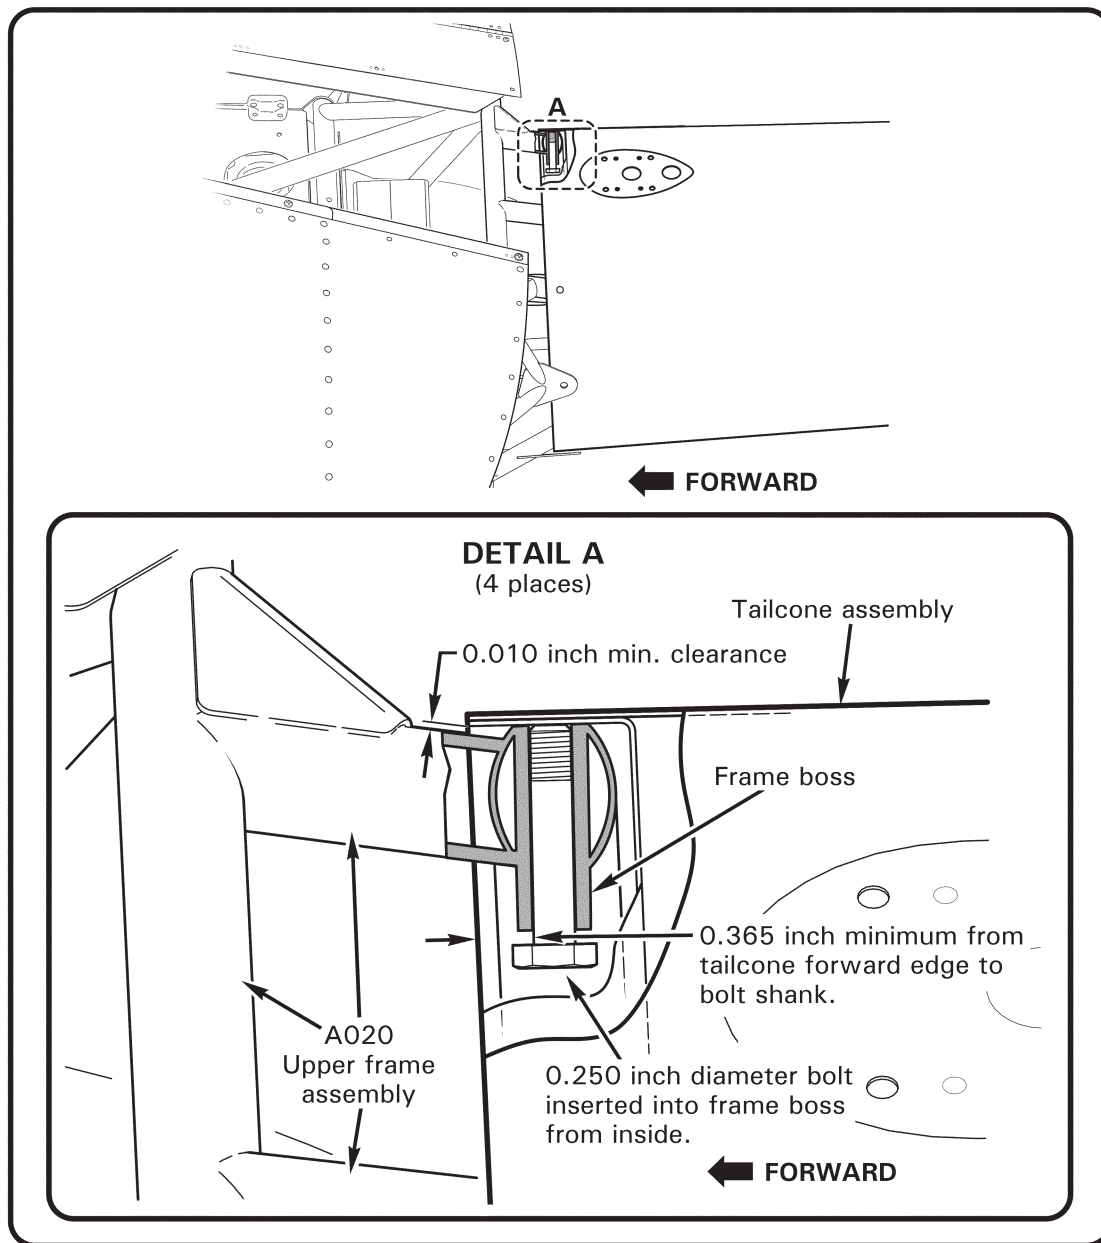

FIGURE 4-2D TAILCONE ATTACH HOLE EDGE DISTANCE
7. Refer to Figure 4-2D. Verify clearance between tailcone edge and upper frame.
6. Refer to Figure 4-2D. Verify 0.010 inch minimum clearance between upper frame tubes and tailcone forward edge (4 places). Place a straight edge across forward face of tailcone and verify 0.365 inch minimum between straight edge and mounting bolt shank inserted in frame boss (4 places). Push tailcone forward or pull aft as required to maintain dimensions.